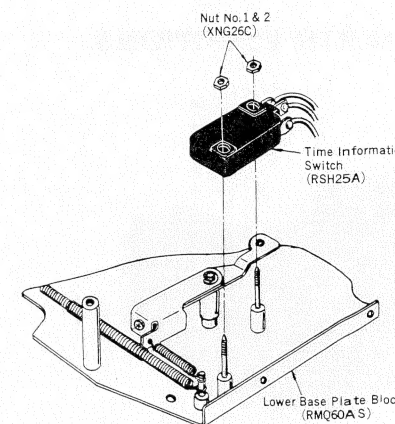

Fig. 19
5. Remove the time information switch attaching nuts, 1 and 2, as shown in fig. 19.
6. Remove the time information switch, as shown in fig. 19.